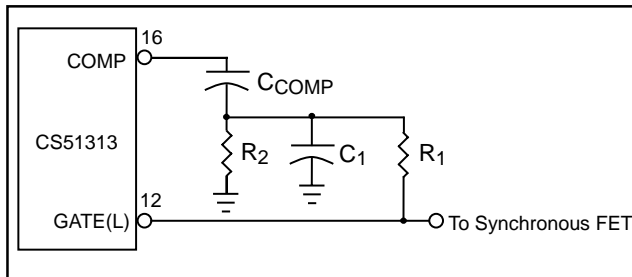

Figure 12: Small RC filter provides the proper voltage ramp at the beginning of each on-time cycle.
The circuit that implements this function is shown in Figure 12.
The ramp waveform is generated through a small RC filter that provides the proper voltage ramp at the beginning of each on-time cycle. The resistors R1 and R2 in the circuit of Figure 12 form a voltage divider from the GATE(L) output, superimposing a small artificial ramp on the output of the error amplifier. It is important that the series combination R1/R2 is high enough in resistance not to load down and negatively affect the slew rate on the GATE(L) pin.